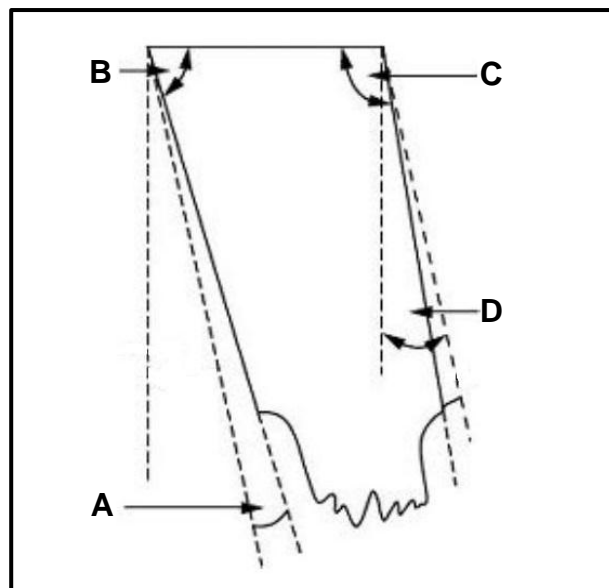

FIGURE 10.2
- 10.2 FIGURE 10.2 below shows a cutting tool to cut screw thread. Answer the questions that follow.